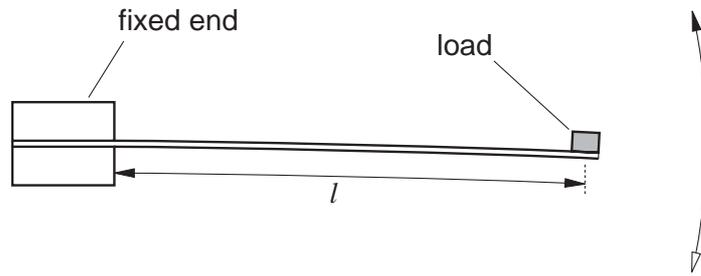

Fig. 1.1
- 1 A student wishes to determine the Young modulus  $E$  of wood from the period of oscillation of a loaded wooden rule, as shown in Fig. 1.1.